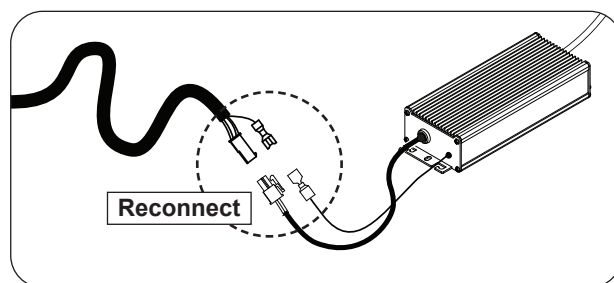

Fig. 31-2 Reconnect harness
1. Route the harness extension in the enclosure directly downward. This will prevent overheating. **DO NOT** route the harness below the unit firebox. See Fig. 31-2.
2. Reconnect the harness extension to the power supply (see Fig. 31-2.)
4. Connect the power cord to a **120VAC (15 AMP minimum) GFCI GROUNDED three-wire receptacle** (see Fig. 31-2). The GFCI receptacle must be a WEATHER-PROOF IN-USE COVERED RECEPTACLE.